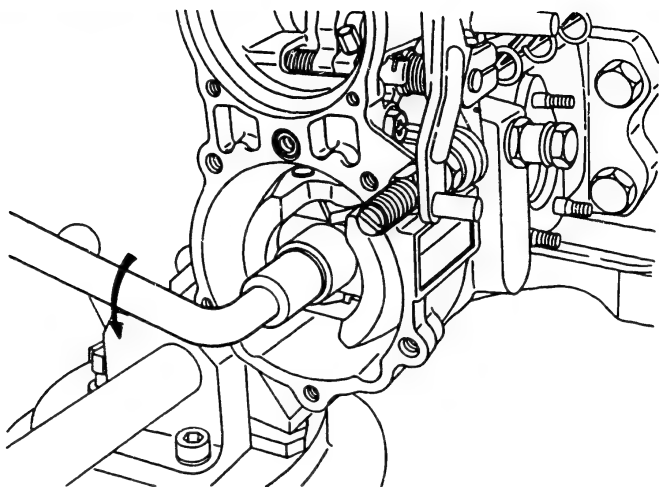

Fig. 35 Removing the locknut
6. Then, using the wrench (KDEP 2626) and L-bar handle (commercially available), remove the locknut (122) and spring washer (121) together. (Fig. 35)